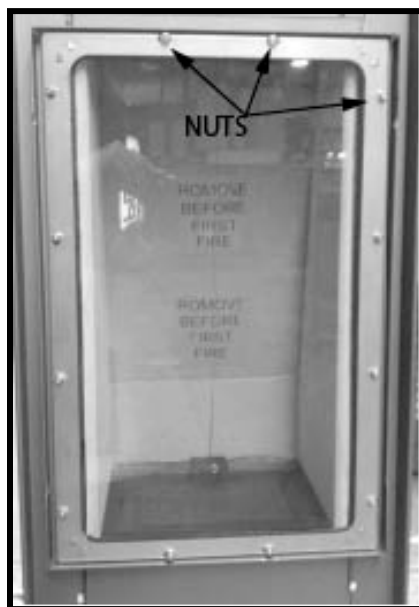

Figure 25: Glass Retainer
1. Position the glass retainer's frame so that the studs on unit align with holes in frame. Secure using 12 11/32" nuts as shown in Figure 25.